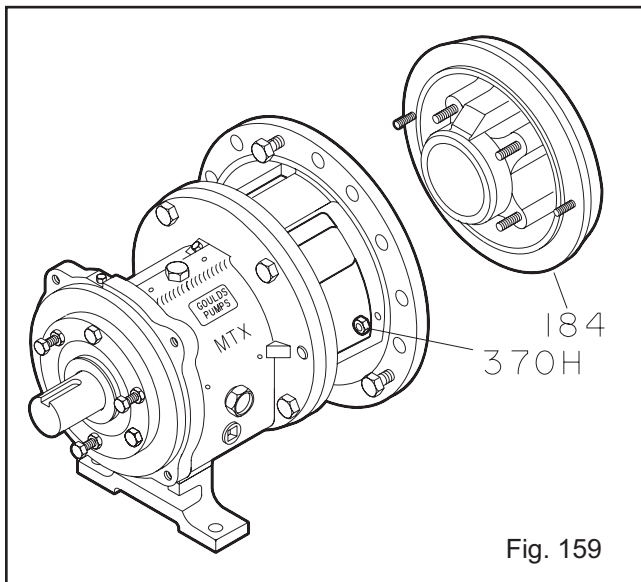

Fig. 159
14. Install seal chamber cover (184) with nuts (370H) (Fig. 159).